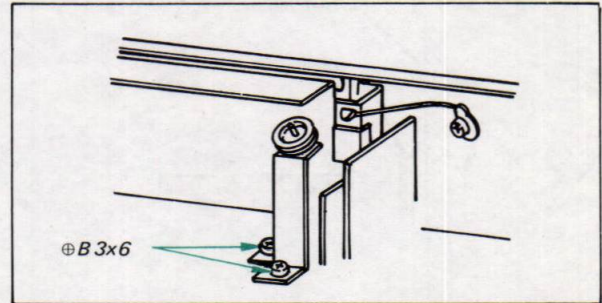

Fig. 2-16. Dial pulley bracket removal
2. Remove the two self-tapping screws ( $\oplus$  B 3 $\times$ 6) securing the dial pulley bracket to the chassis as shown in Fig. 2-16.